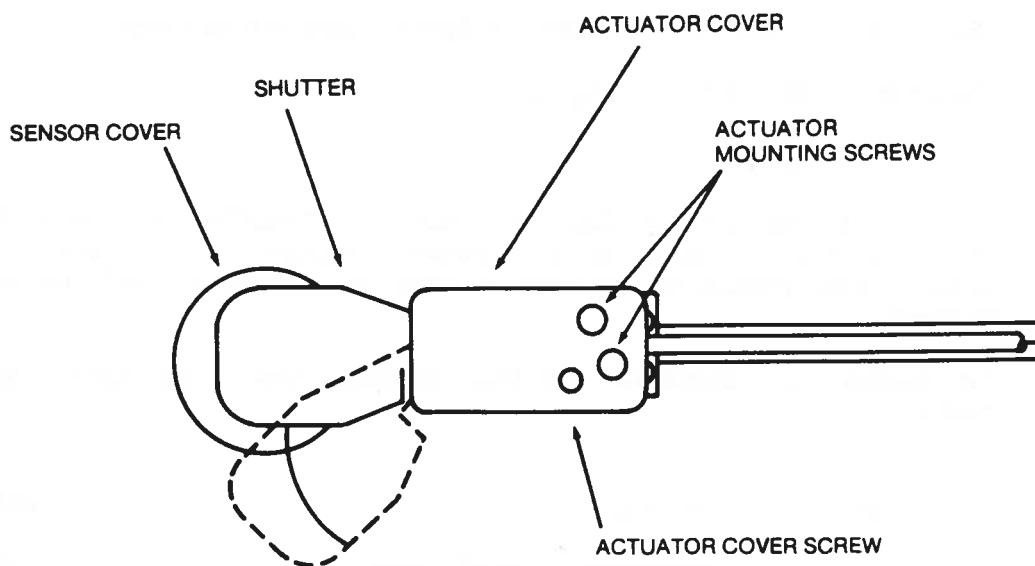

Figure 1 - Top View
1. Remove the actuator cover screw (4-40 x 3/16) on the shutter assembly and remove the actuator cover. (Reference Figure 1.)
2. Remove two water line clamp screws (4-40 x 1/4) (not shown) and remove the clamp. (Reference Figure 1.)
6. Position the assembly as shown in Figure 1. The shutter should cover the sensor cover as shown in Figure 1. It may be necessary to align the sensor slightly to achieve correct positioning.
9. Manually rotate the shutter away from the sensor cover as shown in Figure 1; operation should be smooth and unobstructed.
10. Install the actuator cover on the shutter actuator assembly and install the actuator cover screw (4-40 x 3/16). (Reference Figure 1.)